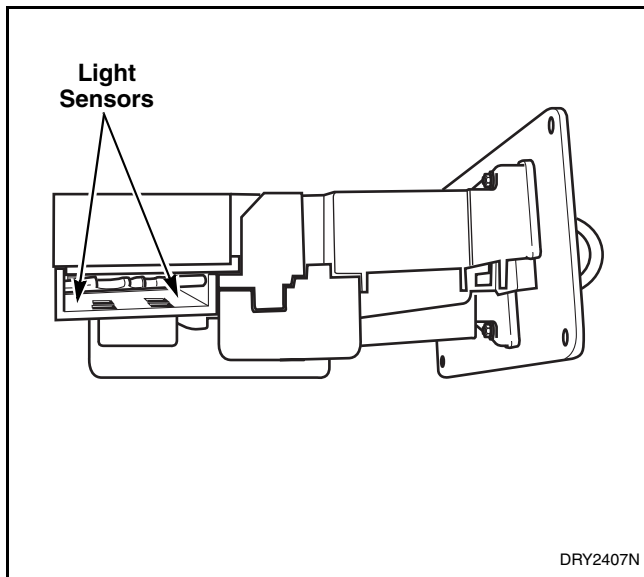

Figure 30
- f. Clean light sensors with a soft brush or air spray duster. Refer to *Figure 30*.